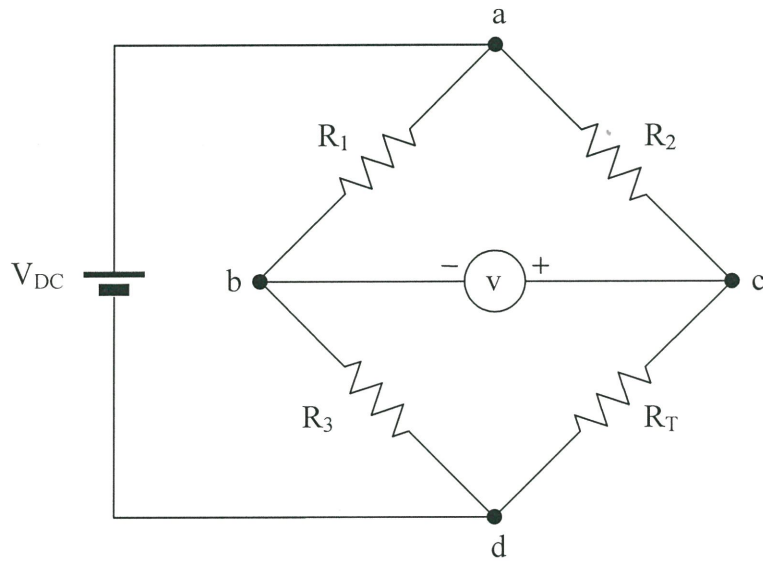

FIGURE Q3(b)
- (b) In the Wheatstone bridge circuit shown in **Figure Q3(b)**, R_T is a resistive temperature sensor, while R_1 , R_2 , are standard resistors and R_3 a variable resistor. Suppose the resistance R_T of the temperature sensor is related to the temperature T , in $^\circ\text{C}$, by the equation